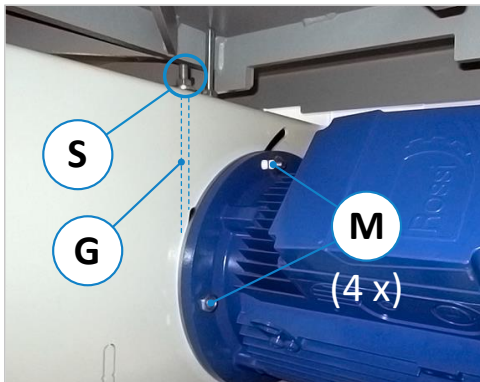

Figure 91: Tensioning the drive belts
- Loosen the four motor screws (**M**) and the tensioning nut (**S**) on the threaded rod (**G**) so that the drive belts are loosened (see procedure in ⇒ Figure 91).